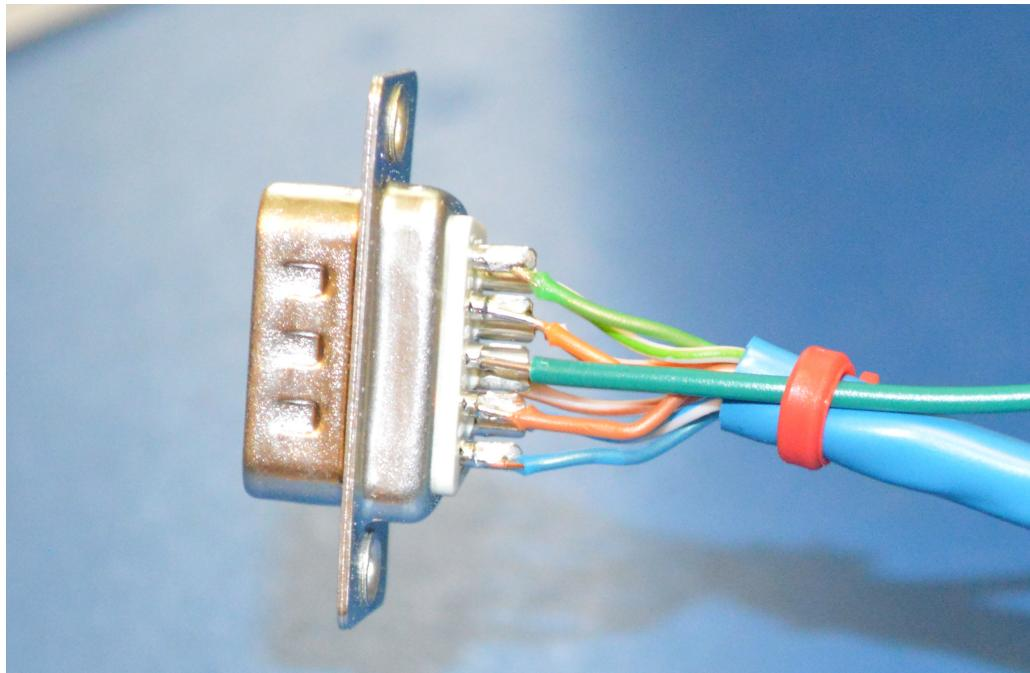

Figure 2.6: LED Panel Connector with Ground Wire
- Since CAT-5 cables are only 8 conductor, a separate ground/return wire needs to be added. As a note of caution, I find that the orange and brown pairs are difficult to distinguish. Be careful, otherwise you may wind up having to resolder the connector. See Figure 2.6.